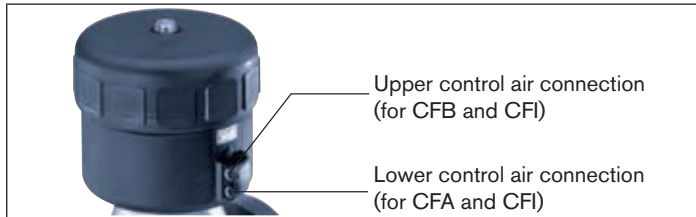

Fig. 20: Control air connection
- Pressurize lower control air connection with compressed air (value as indicated on the type label) (see picture below "Fig. 20").
Actuator does not switch	Control connection interchanged* CFA: → Connect lower control connection CFB: → Connect upper control connection CFI → Upper control connection: Close Lower control connection: Open  * see " <a href="#">Fig. 20</a> "